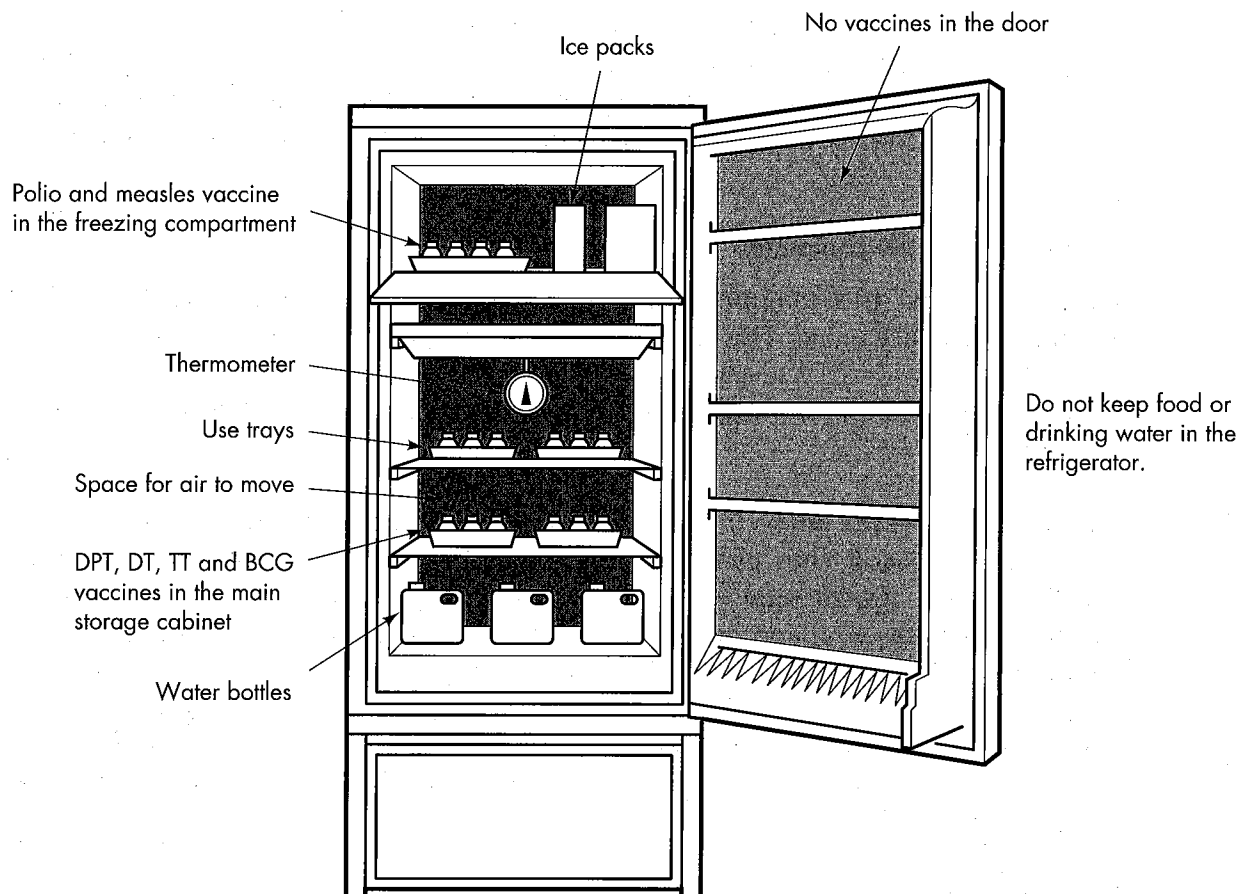

Figure 50: Stocking the refrigerator
It is wise to store ice packs in the freezer compartment. If the refrigerator breaks down for any reason, they can be used to delay the temperature rise or used in a cold box when transferring stock to another refrigerator. Sealed water bottles placed in the lower space of the refrigerator cabinet will also delay a rise in temperature. Their contents should not be drunk (Figure 50).
- check stock is packed correctly. It should not be packed too tightly. There must be room for air to circulate around it – Figure 50